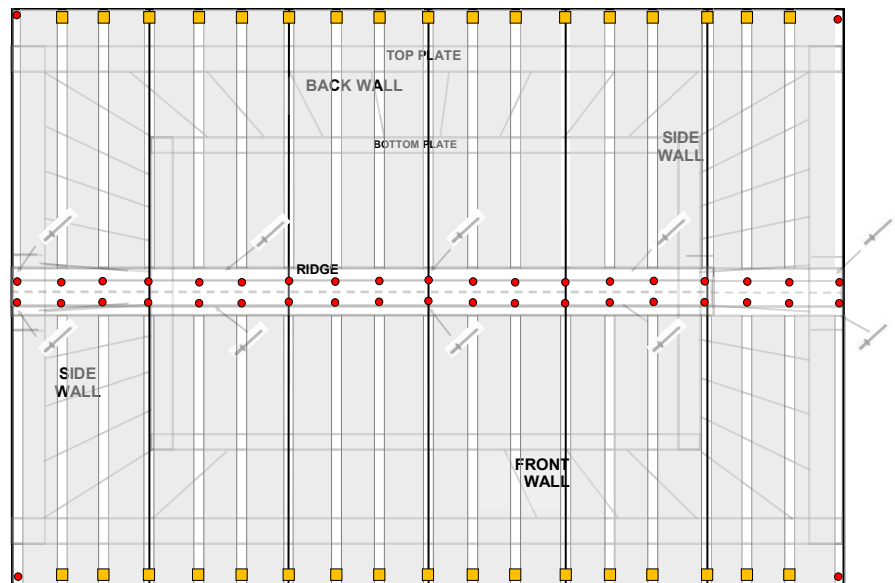

fig.2
- Rivet the 2 Ridge Caps together using 4 rivets, so total flashing is 3.050m long. Rivet the Ridge Flashing to the centre of the roof using 10 x rivets as shown (fig.2).